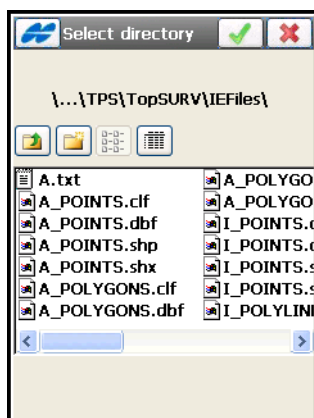

Figure 5-14. Select Directory
- **Next** – opens the **Select Directory** screen (Figure 5-14 on page 5-12).
- **Next** – opens the *Select Directory* screen (Figure 5-14 on page 5-12).
On the *Select Directory* screen (Figure 5-14), select the destination directory for data import.